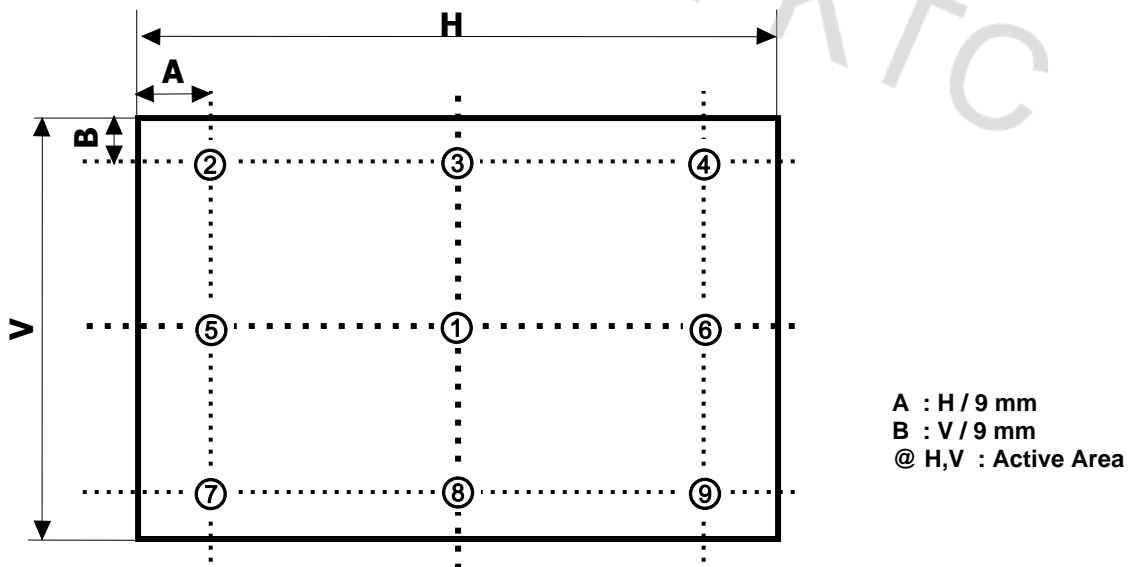

FIG. 3 9 Points for Luminance Measure
4. Response time is the time required for the display to transition from G(N) to G(M) (Rise Time, T_R) and from G(M) to G(N) (Decay Time, T_D). For additional information see the FIG. 3. (N<M)